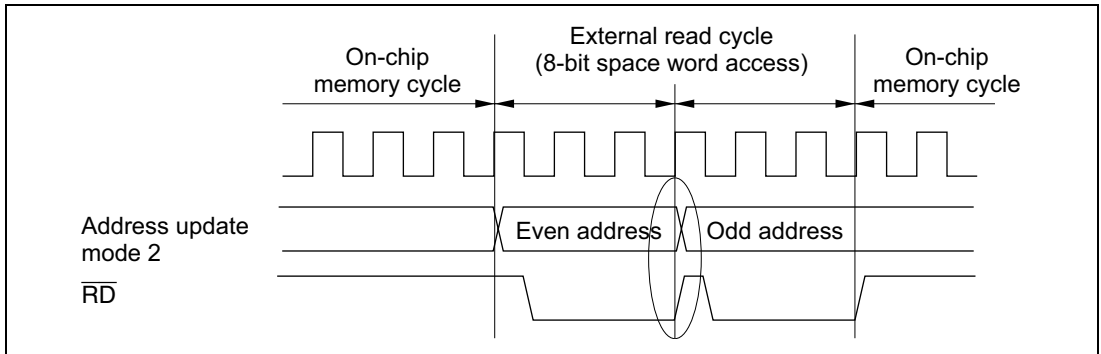

Figure 6.6 Example of Consecutive External Space Accesses in Address Update Mode 2
- In order to secure address holding with respect to the rise of $\overline{RD}$, when address update mode 2 is used an external space read access must be completed within a single access cycle. For example, in a word access to 8-bit access space, the bus cycle is split into two as shown in figure 6.6, and so there is not a single access cycle. In this case, address holding is not guaranteed at the rise of $\overline{RD}$ between the first (even address) and second (odd address) access cycles (area inside the ellipse in the figure).